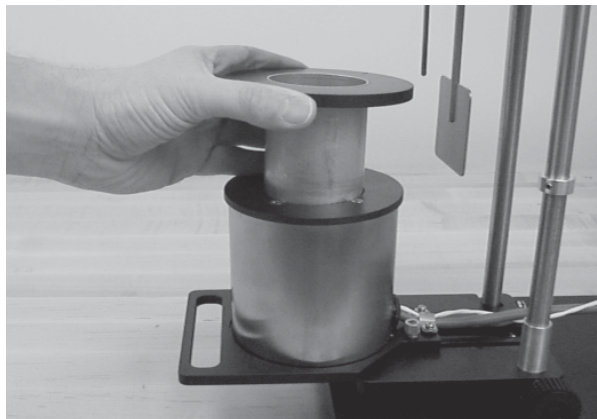

Figure 8: Inserting the sample cup into the heater block
3. Place the sample cup into the heater block (see Figure 8).